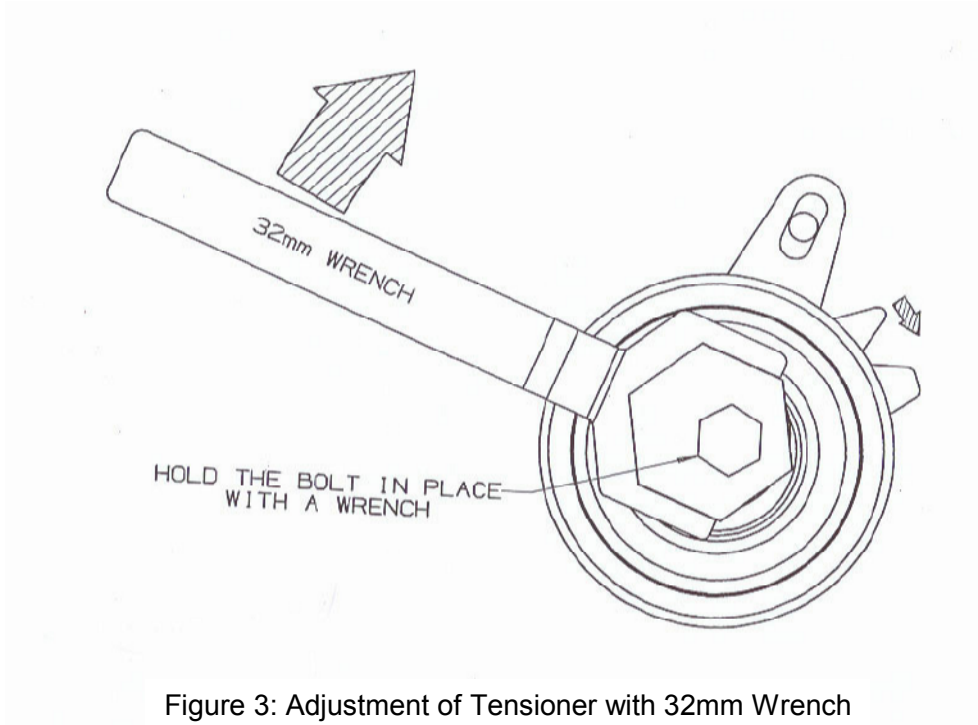

Figure 3: Adjustment of Tensioner with 32mm Wrench
6. Rotate the Installation Shaft **CLOCKWISE** with a 32mm Wrench. Make sure to hold the mounting bolt with a 13mm Wrench in order to prevent it from turning when rotating the Installation Shaft. The Tensioner assembly will move against the belt and the Arm Pointer will eventually start to move **CLOCKWISE** (See Figure 3).